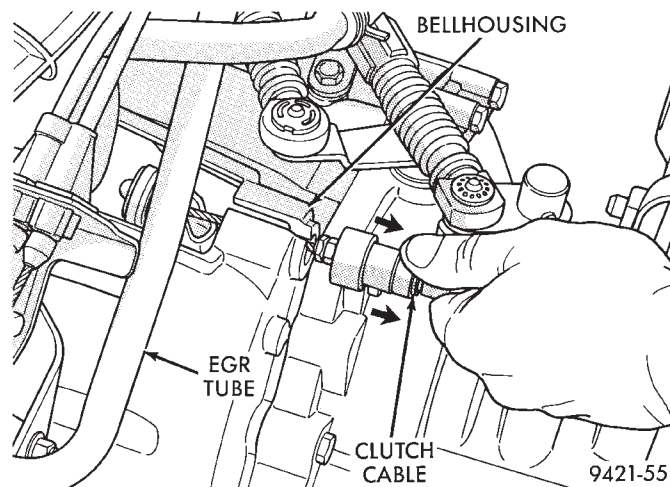

Fig. 19 Clutch Cable Removal
(1) Disconnect the battery negative cable at strut tower.
(2) Remove air cleaner at throttle body base inlet.
(3) Remove clutch housing vent cap, exposing the clutch cable end and clutch release lever. Then remove clutch cable from transaxle bellhousing (Fig. 19).